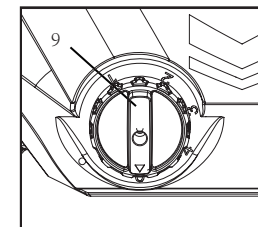

Fig. 17
1. Turn the adjustment knob (9) clockwise to increase the depth (Fig. 17).
2. Turn the adjustment knob (9) anticlockwise to decrease the depth (Fig. 17)
3. Read the adjusted depth from the scale (Fig. 17).